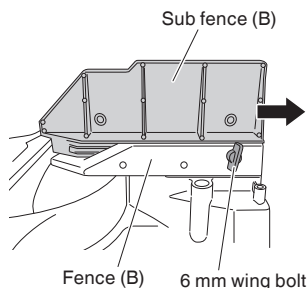

Fig. 11
This power tool is equipped with a sub fence (B). In the case of direct angle cutting and right bevel angle cutting, use the sub fence (B). Then, you can realize stable cutting of the material with a wide back face. When left angle cutting, loosen the 6 mm wing bolt, then slide the sub fence (B) outward, as shown in Fig. 11.